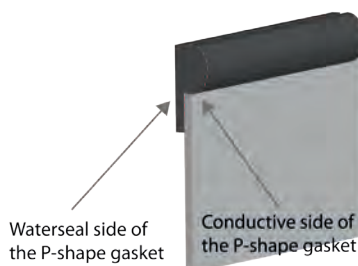

Figure 53: Example of a p-shape gasket and a u-shape gasket
- 53** For **easy mounting** there are gaskets in a P-shape or U-shape available. These gaskets can be easily mounted on a rim due to their shape. (Fig. 53)